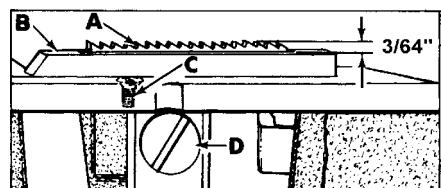

Fig 10
Feed dog (A, Fig. 10) should be centered in throat plate (B) with equal clearance on all sides and ends with feed travel set to desired stitch length. At highest point of travel, tips of feed dog teeth should extend the depth of  $3/64"$  above throat plate and parallel to same. Screw (C) should be set to support feed dog after screw (D) has been loosened which secures feed dog in position.